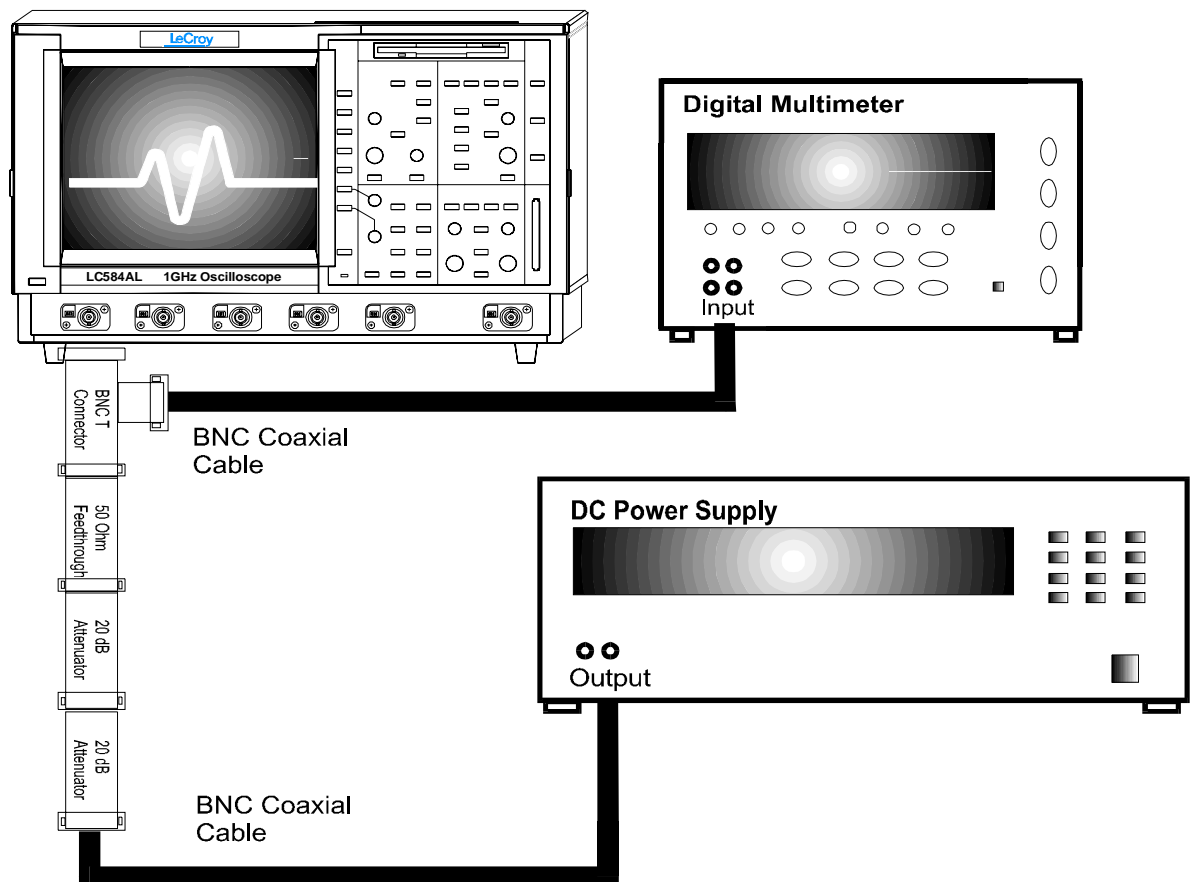

Figure 5-4: DC 1M Ω Accuracy Equipment Setup for 5 mV/div.
- For 5 mV/div., connect the test equipment as shown in Figure 5-4.
- Connect the test equipment as shown in either Figure 5-4 or 5-5 or 5-6.